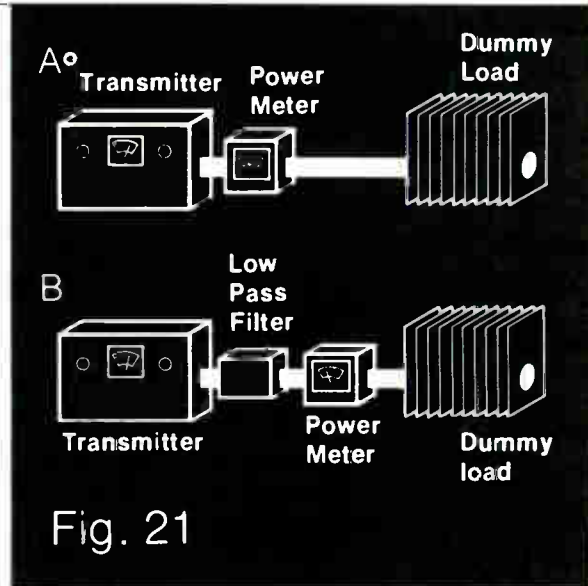

Fig. 21
4. By installing one or more low-pass filters in the transmitter antenna lead, you will reduce the chances of unnecessary harmonic radiation. A low-pass filter allows frequencies up to 30 or 50 megahertz (MHz), depending on brand, to pass through unattenuated to the antenna while effectively shorting out harmonic radiation. To make this test, connect the equipment as in Figure 21 and take a power reading. If only an SWR Bridge is available, calibrate it in the forward direction to the